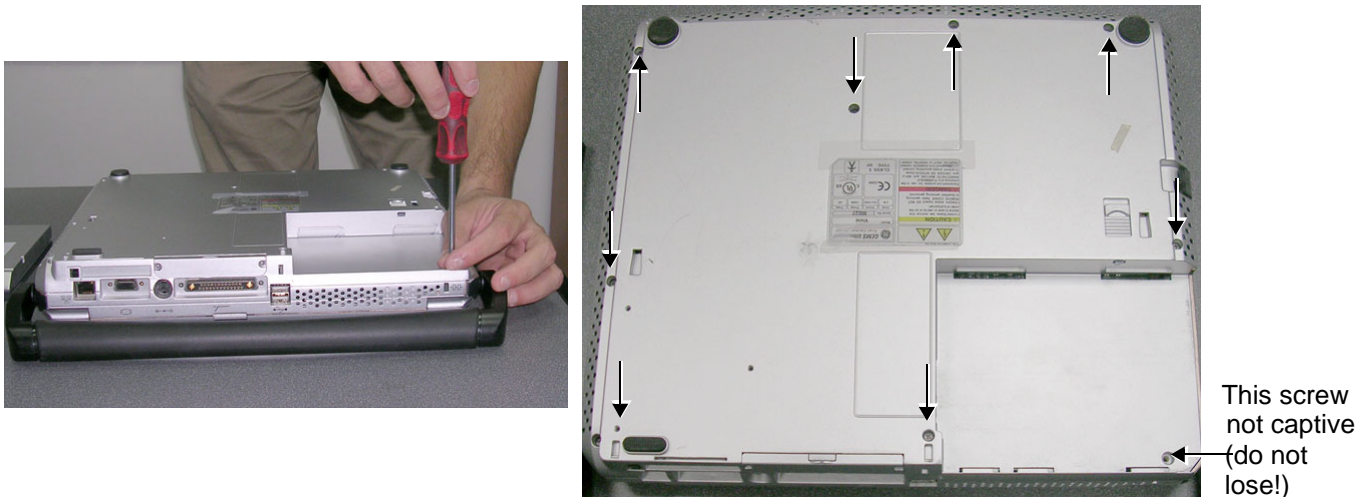

Figure 8-13 Removing the Fastening Screws from the Bottom Assembly
- 3) Loosen and remove each of the 9 screws that fasten the Control Panel and Keyboard onto the Bottom Assembly, as indicated in Figure 8-13 below.
- 5.) Return and fasten each of the 9 screws that secure the Control Panel and Keyboard onto the Bottom Assembly (refer to Figure 8-13, above).